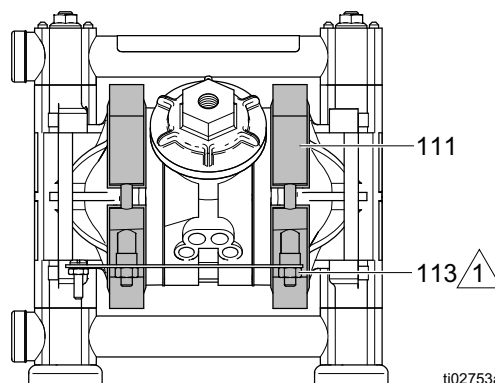

FIG. 9: Tightening the Clamps
When tightening the clamps (111), apply thread lubricant to the bolts and **be sure** to torque the nuts (113)–50 to 60 in-lb (5.6–6.8 N•m). See FIG. 9. See **Torque Sequence** on page 32.
2. Remove the manifolds (102) and disassemble the ball check valves as explained in **Ball Check Valves**. Always replace the o-rings (108) with new ones.
3. Using a 7/16 in. socket wrench, remove the clamp nuts (113) and the grounding strip (112). Loosen the clamps (111) and slip them over the housing (11). Pull the covers (101) off the pump, then remove the clamps from the housing. See the Detail in FIG. 9.
4. Using a 1/2 in. socket wrench on both outer diaphragm plates (103), unscrew one plate from the diaphragm shaft (23). Remove one diaphragm (401), inner diaphragm plate (118), and o-ring (404). Pull the opposite diaphragm assembly and the diaphragm shaft out of the pump housing (11). Use a 3/16 in. wrench to hold the shaft and unscrew the outer plate (103), then disassemble the remaining diaphragm assembly.
5. Inspect the diaphragm shaft (23) for wear or scratches. If it is damaged, replace.
6. Hook the shaft seals (122) with an o-ring pick and pull them out of the housing (1). Avoid scratching the bore.